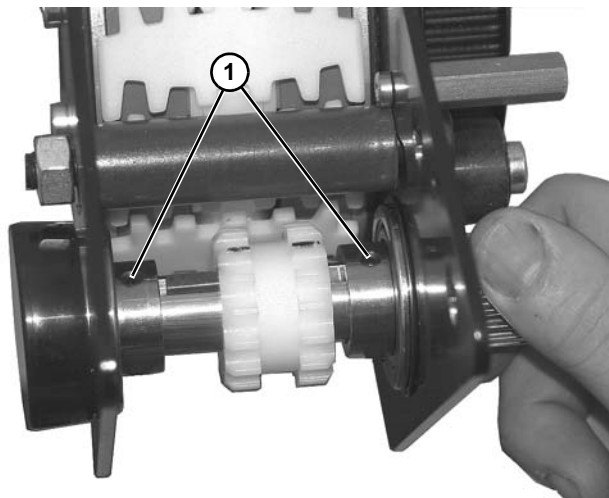

Figure 155
2. Secure drive shaft onto bearings with two set screws (Figure 155, item 1).